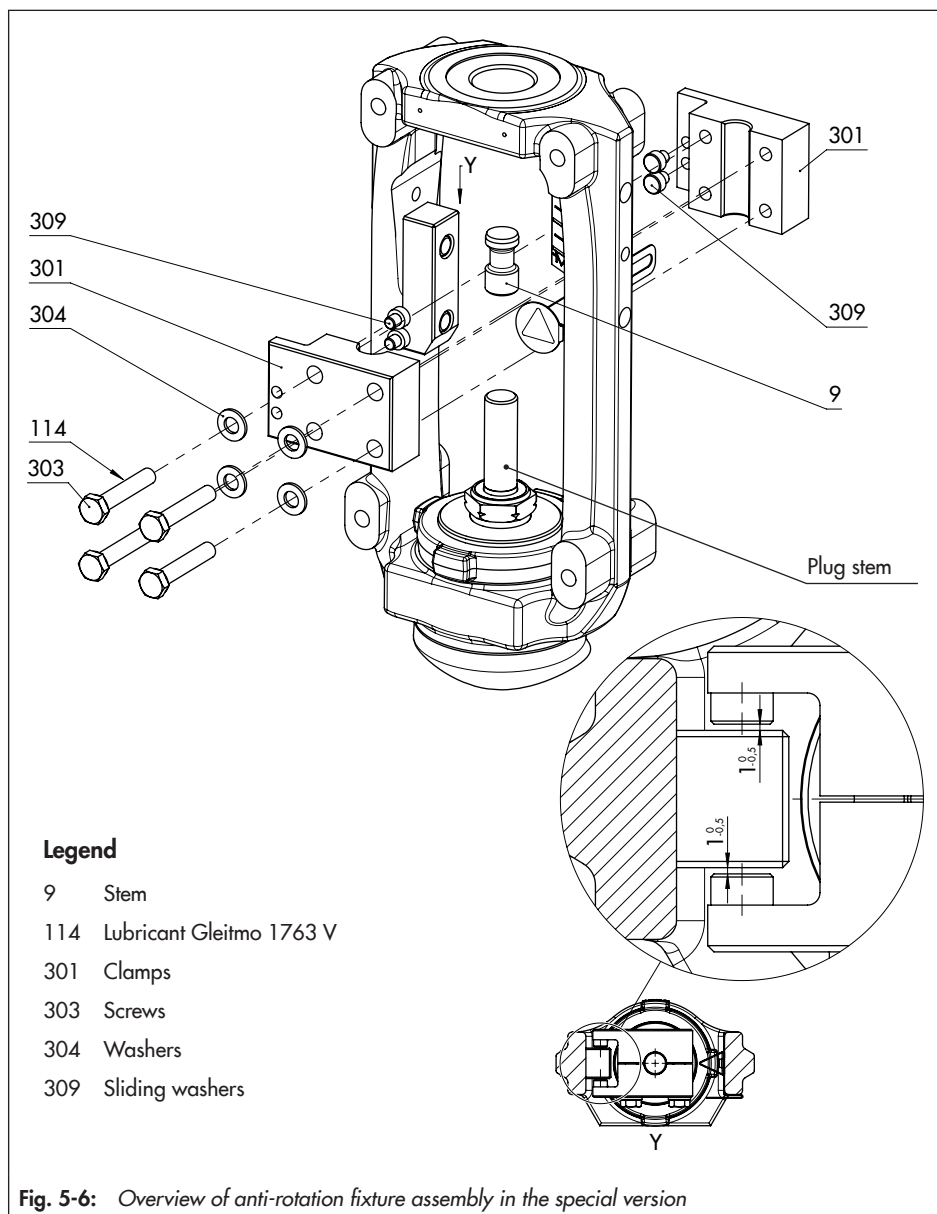

Fig. 5-6: Overview of anti-rotation fixture assembly in the special version
See Fig. 5-2 and Fig. 5-6
- There is a nominal clearance of 0.5 to 1 mm between the sliding washers and their contact surface on the yoke on each side (see detailed view Y in Fig. 5-6).